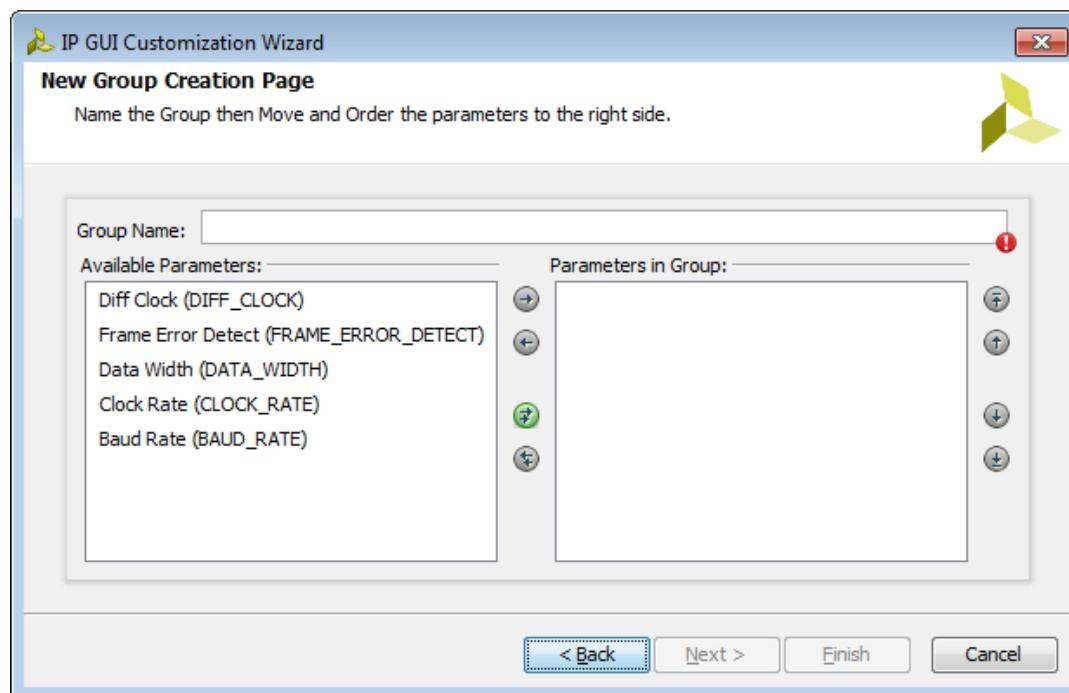

Figure 8-87: New Group Creation Page
- Click **Group** to open the New Group Creation Page (Figure 8-87).